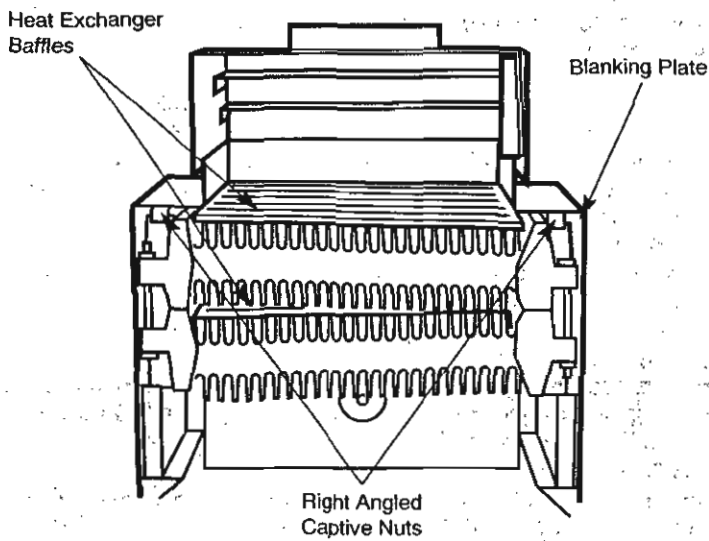

Fig. 3. Connections
### Boiler Connections (Fig. 3)
- Slide out the baffles from between and above the heat exchanger castings and slide out the blanking plate (Fig. 3).
- Remove the two right angled captive nuts (Fig.3).